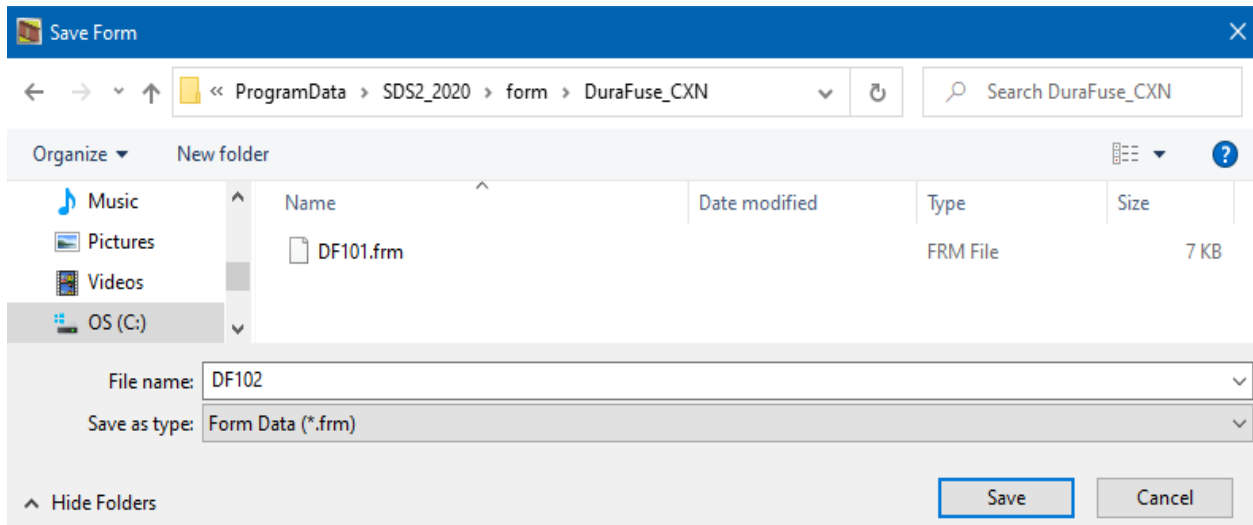

Figure 4-5. Save Form Dialog
3. Choose the location to save and name it after the connection ID, see Figure 4-5.